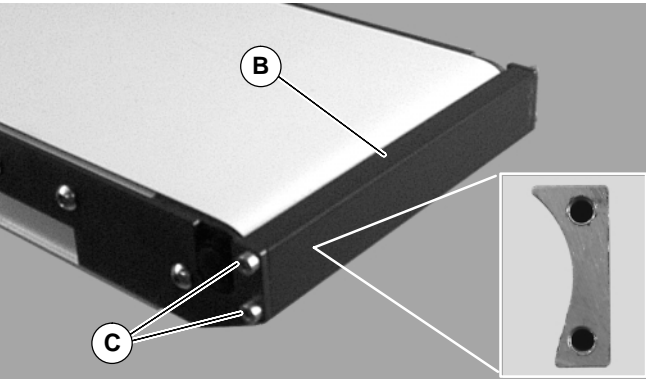

Figure 5
- Install transfer plate (B of Figure 5) with the wide side up (see detail). While maintaining clearance between transfer plate and conveyor belt, tighten screws (C) to 36 in-lb (4 Nm).